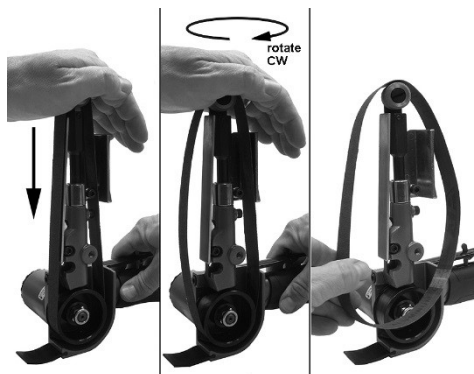

Figure 6: JAT-752
- Steady sander with one hand. Push down on idle pulley assembly and turn 1/8 of a full turn clockwise to lock in place. See Figure 6.